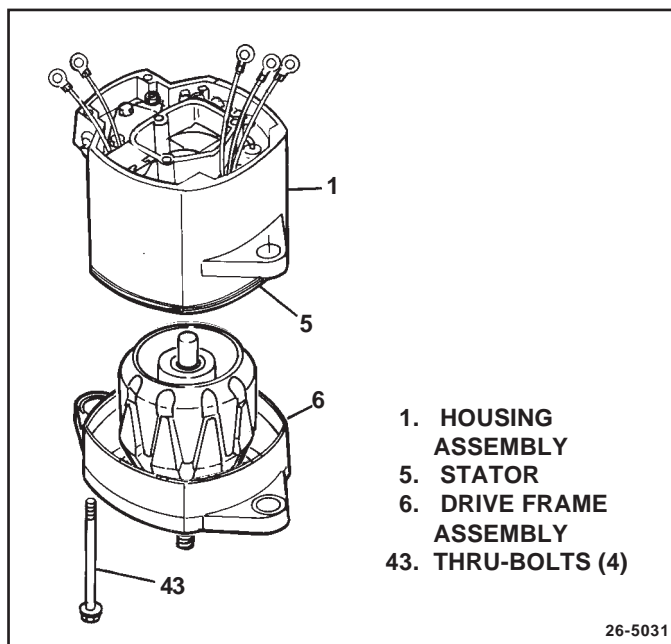

Figure 39. Assembly of Alternator Halves
16. Align mounting lugs and assemble two halves of alternator (See Fig. 39), inserting rectifier end bearing inner race (on rotor shaft) into rectifier end bearing in rectifier housing. Do not fully seat drive end housing at this time.
17. Insert 4 thru-bolts (43) through drive end housing (6) and stator (5) into threaded holes in rectifier housing (1). Align housings and stator as needed to allow thru-bolts to stand straight in holes and engage threads. When all four thru-bolts are inserted, tighten them in round-robin fashion to fully seat both housings against shoulder on stator.